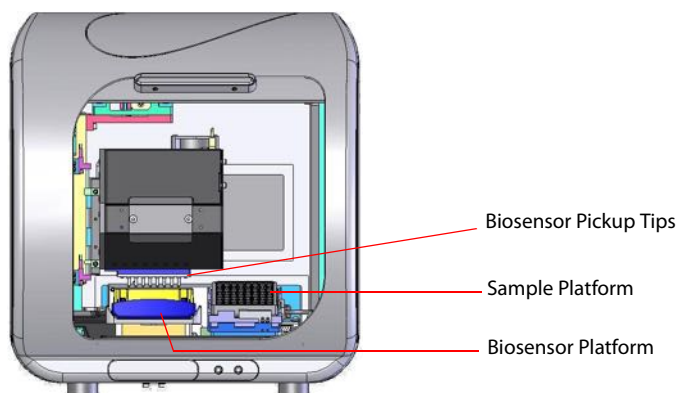

Figure 11-1: Octet Instrument
3. Wipe the biosensor and sample platform (Figure 11-1).